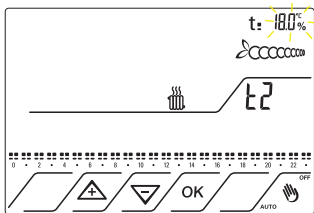

Fig. 29
7.7 The display shows the second level value: T2. The relative set temperature 18°C flashes. Fig. 29